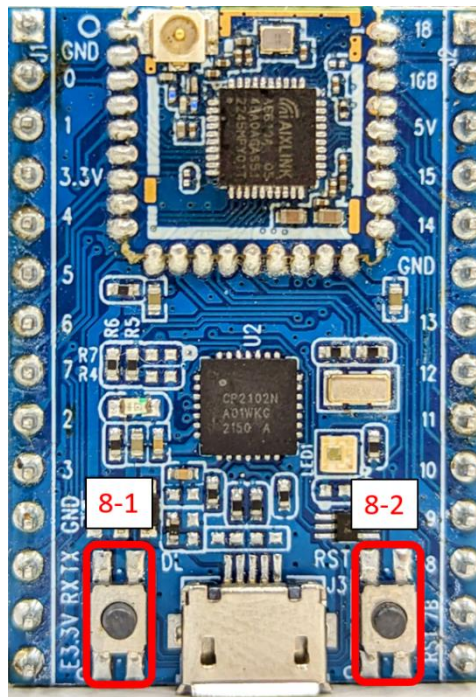

Figure 9: Enter Download mode
- ① Set the serial port.
- ② Turn on the connection and the button turns green. Make sure the serial software is disconnected before performing this step.
- ③ Load the configuration.
- ④ Select the Config.ini file in the target path
- ⑤ Confirm to open
- ⑥ Select the FW file to be burned
- ⑦ Click on Write
- ⑧ Press and hold the Download button and short press the Reset button to enter the burning mode, as shown in Figure 9
- ⑨ Confirm that the burning progress bar is 100%, you can disconnect and finish burning